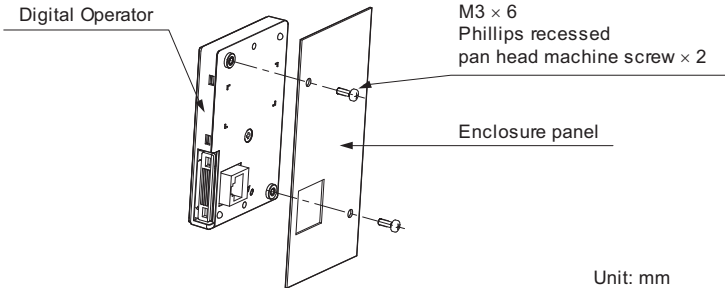

Figure 2.13 External/Face-Mount Installation
- 2. Position the digital operator so the display faces outwards, and mount it to the enclosure panel as shown in Figure 2.13.